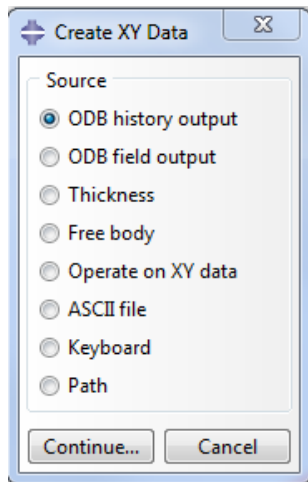
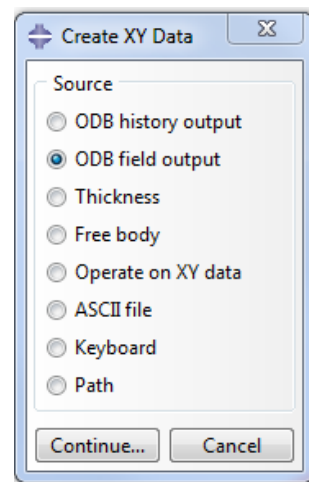

Figure 39a. Create XY Data Dialog Box
Figure 39b. Create XY Data Dialog Box (FIELD)
- To obtain the stresses in an element click the **Create XY Data** icon  in the **Visualization** module. The **Create XY Data** dialog box will appear (Figure 39a). Choose the **ODB field output** option (Figure 39b).